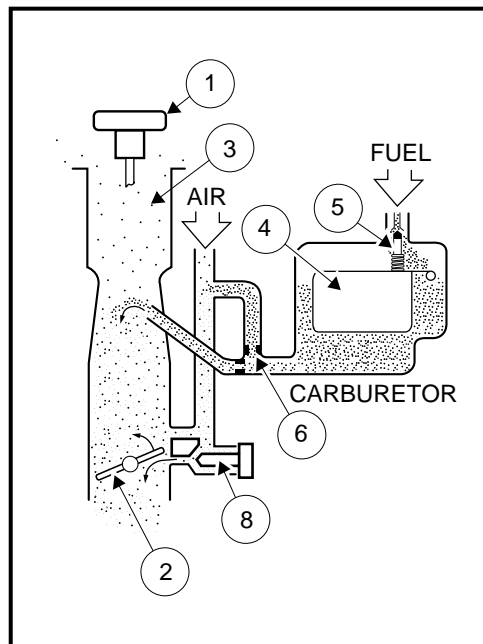

Figure 14-4 Choke System
The choke system aids in starting the engine in cold weather. When starting a cold engine, the choke cable handle (1) (**Figure 14-4, Page 14-4**) is pulled. This restricts the air flow to the venturi, causing a very high vacuum that draws fuel into the venturi at a high rate and thus creates a “fuel rich” mixture. The choke handle is pulled until the engine starts, and then released when the engine begins to run smoothly.
Fuel is supplied to the carburetor float chamber by an external impulse pump that draws fuel from the fuel tank and through the fuel filters (**Figure 14-4, Page 14-4**). The fuel then passes through the inlet valve (5) and into the float bowl. The fuel entering the bowl causes the float (4) to rise until it shuts off the inlet valve, preventing the fuel from exceeding a level predetermined by the float level setting.